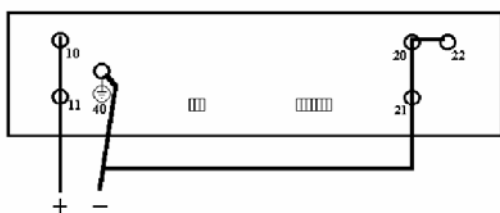

Figure 7. Input to output and input to case isolation voltage test.
- Connect your isolation tester between input and case. See Figure 7. Raise the voltage of the isolation tester from 0 to 2000Vd.c . Check that the leakage current does not exceed $5\mu\text{A}$. The voltage should not be applied for more than a few seconds or the Y-capacitors might be damaged.
- Connect the output terminals of the converter to case. See Figure 7.
- Connect your isolation tester between input and case. See Figure 7. Raise the voltage of the isolation tester from 0 to 2500Va.c . The voltage should not be applied for more than one (1) minute or the Y-capacitors might be damaged.